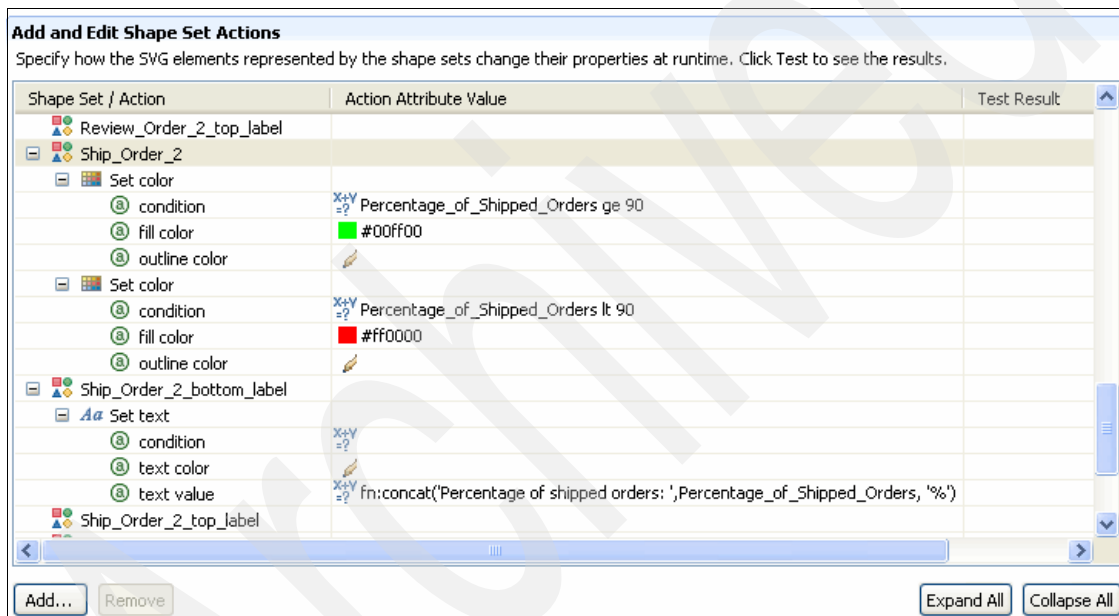

Figure 8-131 Adding actions for KPI context
6. Scroll down to Add and Edit Shape Set Actions. Add actions for Ship_Order_2 and Ship_Order_2_bottom_label shape sets (Figure 8-131):